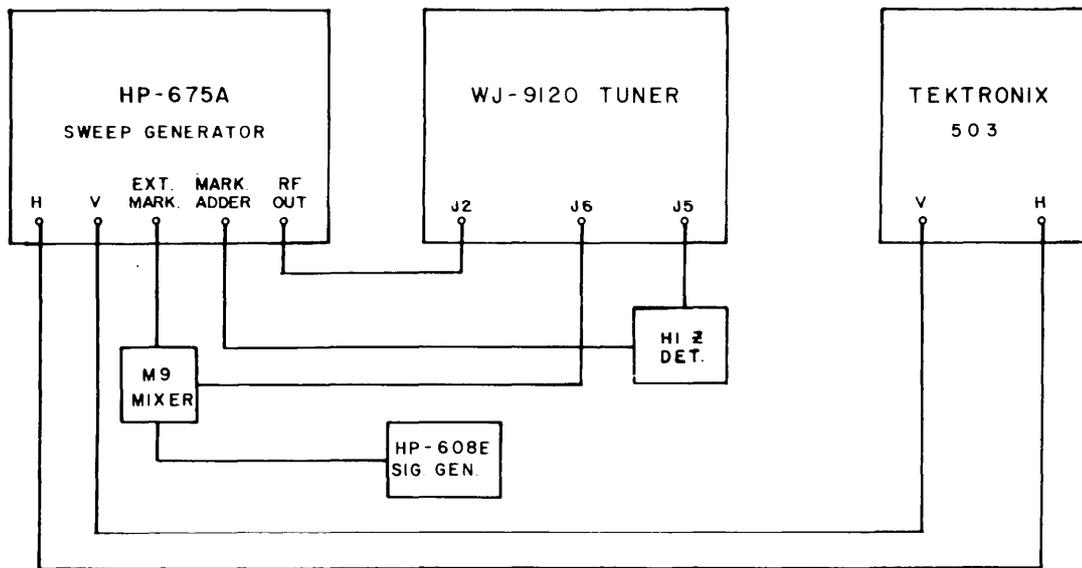
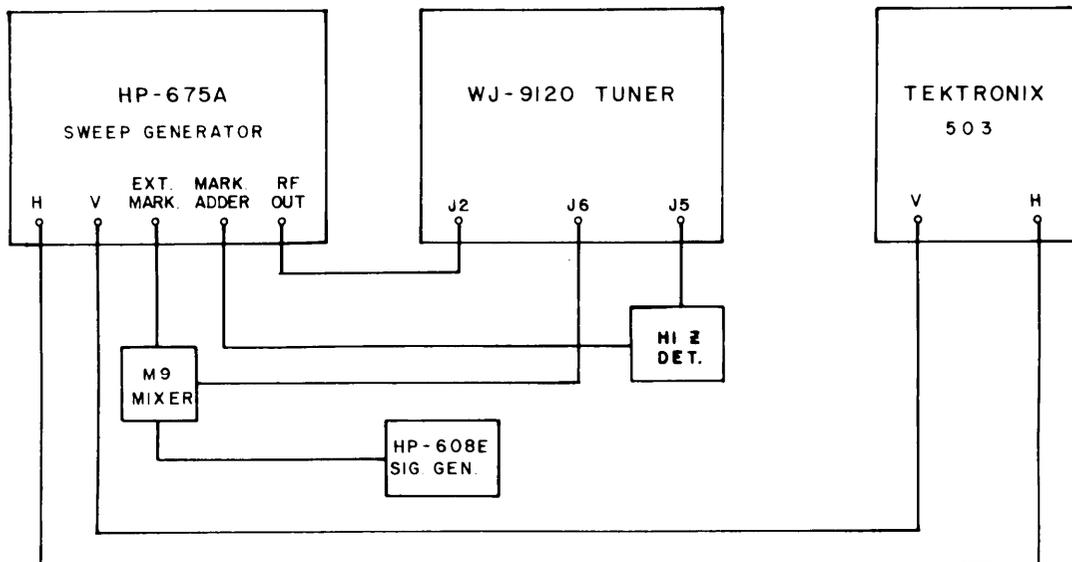

Figure 4-10. Equipment Connections, Low Band RF Preselectors
Figure 4-14. Equipment Connections, 12-30 MHz Preselector
- (1) Connect power for low band operation (Figure 4-2) and connect the test equipment as illustrated in Figure 4-10.
- (2) Set the HP-675A Sweep Generator to sweep 2 MHz about a center frequency of 1 MHz at an output level of -15 dBm. Adjust the signal generator to 21.4 MHz and adjust the output level to produce a visible marker.
- (3) Connect the DVM to board terminal 5 of the .5-1.5 MHz RF Preselector (A2) and adjust the tuning shaft for +1.07 Vdc at this point.
- (4) Adjust A2L1, A2L4, A2L5 and A2L7 for maximum response.
- (5) Readjust the tuning shaft for 5.5 Vdc at terminal 5.
- (6) Adjust A2C1, A2C4, A2C10 and A2C13 for maximum response.
- (1) Connect power for high band operation (Figure 4-3) and connect the test equipment as illustrated in Figure 4-14.
- (1) Connect power for low band operation and connect the test equipment as illustrated in Figure 4-10,
- (2) Set the sweep generator to sweep 2 MHz about a center frequency of .5 MHz and adjust the tuning for an LO frequency of 21.9 MHz at J6 (.5 MHz tuned frequency).
- (3) Slowly tune the sweep generator and the WJ-9120 tuning shaft upward in frequency while observing the tracking marker on the response curve. The marker should remain within the preselector 2 dB bandwidth throughout range of the preselector.
- (4) Adjust the shaper gain potentiometer (A1R26) to correct tracking at the low end of the Preselector's frequency range and adjust the shaper offset potentiometer (A1R23) to correct tracking at the high end.
- (5) Repeat steps (2) through (4) until tracking within the preselector's 2 dB bandwidth is attained throughout the range of the preselector.
- (6) Set the sweep generator to sweep 2 MHz about a 1.5 MHz center frequency and adjust the tuner knob for an LO frequency of 22.9 MHz at J6.
- (7) Repeat steps (3) through (5), adjusting shaper gain potentiometer (A1R35) and shaper offset potentiometer (A1R32).
- (8) Set the sweep generator to sweep 5 MHz about a center frequency of 4.5 MHz and adjust the tuning shaft for an LO frequency of 25.9 MHz at J6.
- (9) Repeat steps (3) through (5), adjusting shaper gain potentiometer (A1R44) and shaper offset potentiometer (A1R42).
- (10) Connect power for high band operation (Figure 4-3) and connect the test equipment as illustrated in Figure 4-14.
- (11) Set the sweep generator to sweep 10 MHz about a center frequency of 12 MHz and adjust the tuning shaft for an LO frequency of 22 MHz at J4.
- (12) Repeat steps (3) through (5), adjusting shaper gain potentiometer (A1R55) and shaper offset potentiometer (A1R52).